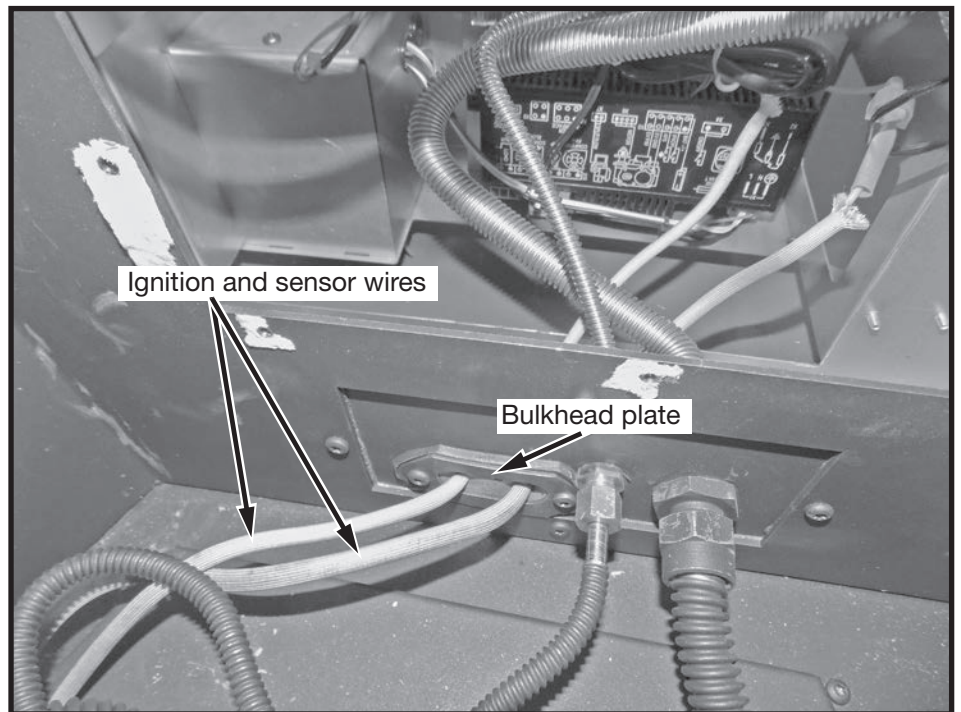

Figure 6: Ignition and sensor wires routing.
5. Feed the ignition and sensor wires through the bulkhead plate (Figure 6) to the interface.